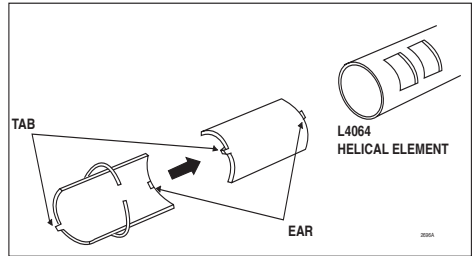

Fig. 4 - Using SUPER TRADELINE adapter.
1. Insert one-half of the split steel bushing (Fig. 4), through the wire ring. It may be necessary to spread the ring slightly.